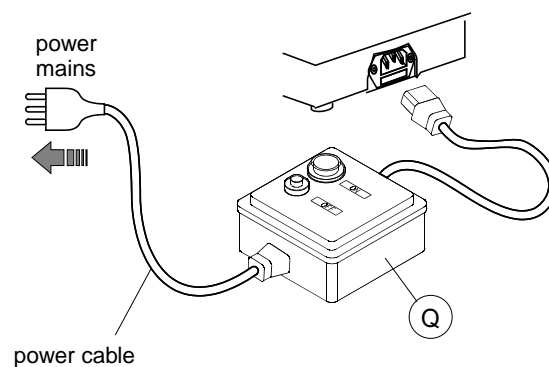

Fig. 6
First connect the key-cutting machine and the power cable (Q) then connect the free end of the power cable to the power mains (fig. 6).